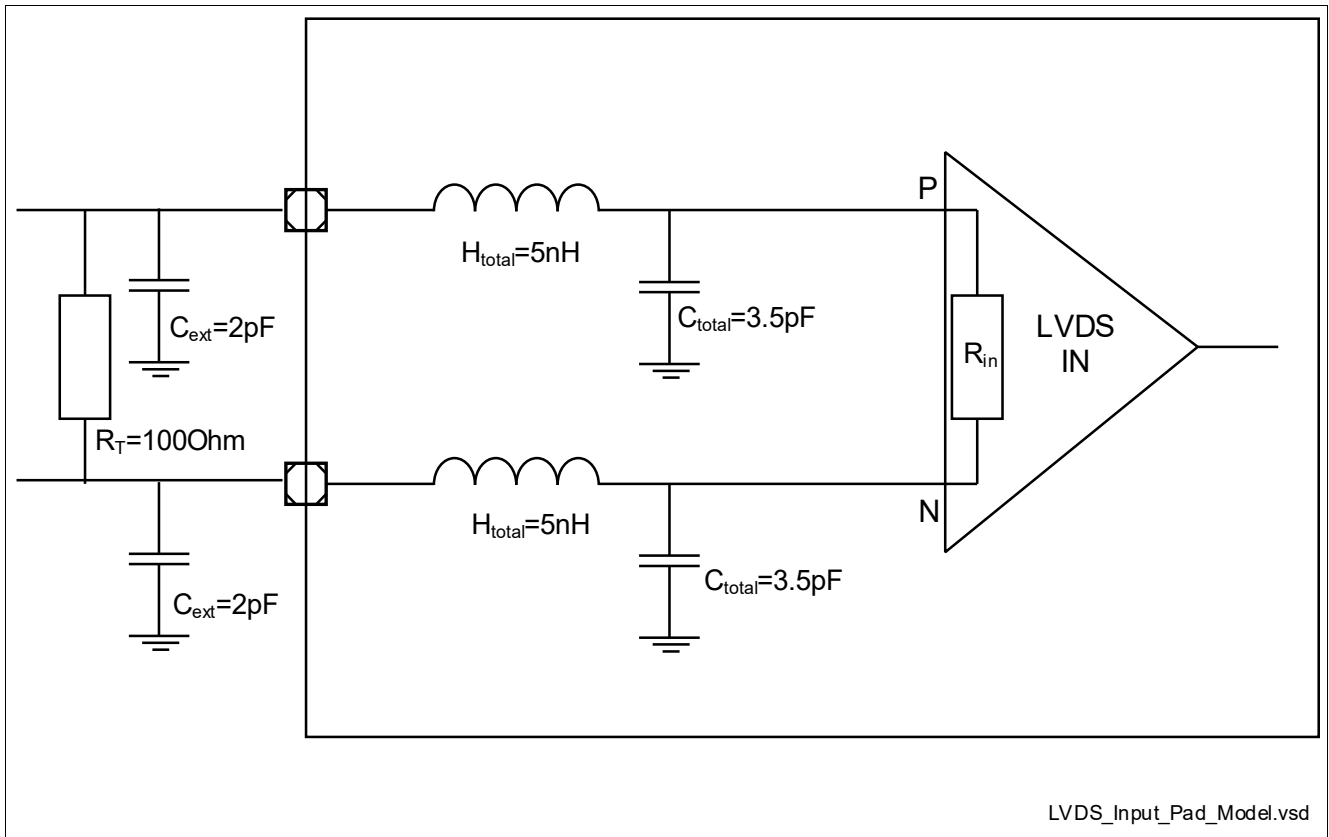

Figure 3-1 LVDS pad Input model
*Note: R_T in table 'LVDS - IEEE standard LVDS general purpose Link (GPL)' is as termination resistor of the receiver according to figure 3-5 in IEEE Std 1596.3-1996 and is represent in **Figure 3-1** either by RIN or by $RT=100Ohm$ but not both.*